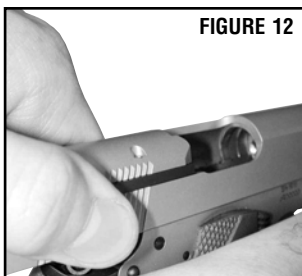

FIGURE 12
- With the muzzle still pointing in a safe direction, grasp the serrated sides of the slide from the rear with the thumb and fingers as shown (Figure 12) and briskly draw the slide fully rearward and release it. This strips a cartridge from the magazine and seats it in the chamber of the barrel and at the same time, fully cocks the hammer.